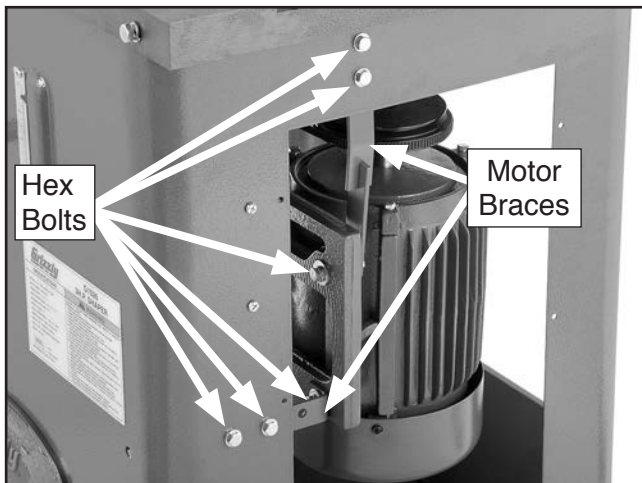

Figure 8. Motor braces and hex bolts.
2. Remove the six hex bolts, hex nuts and flat washers and the two motor braces shown in **Figure 8**.